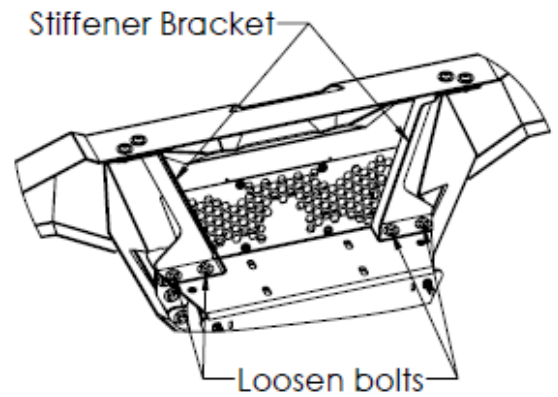

Figure 1. Loosen Stiffener Brackets
3. Attach the Bull Bar as shown above and attach using the 3/8" hardware. It's best to loosen the lower bolts on the stiffener bracket to help ease installation. See Figure 1.